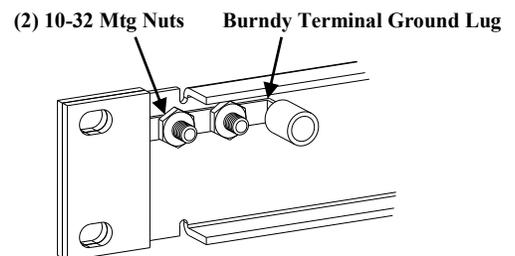

Figure 5
1. Remove the Burndy terminal lug from the 706 panel by removing the (2) #10-32 nuts from the mounting studs (See Figure 5).
5. Install the terminal lug and wire to the 706 panel using the (2) #10-32 nuts provide (See Figure 5).